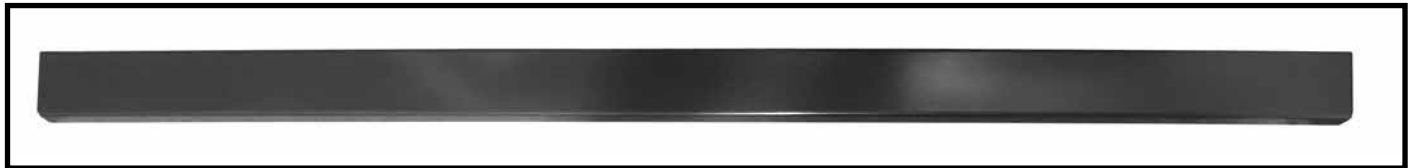
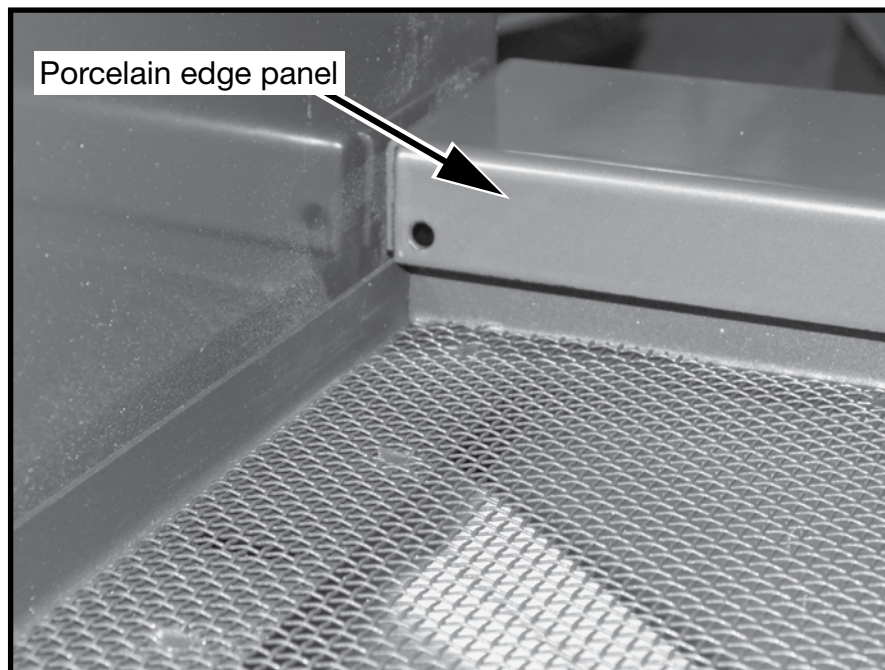

Figure 17: Porcelain edge panels.
Figure 18: Porcelain edge panels.
17. Place the two porcelain edge panels (Figure 17) into the fireplace with the narrow edge facing the center of the fireplace (Figure 18 and Figure 19). The edge panels rest in place and are not screwed down.